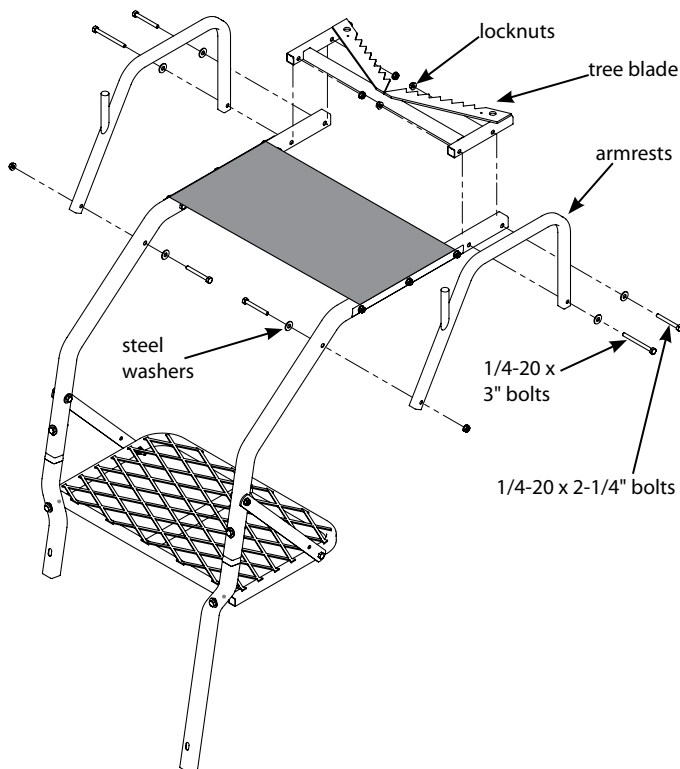
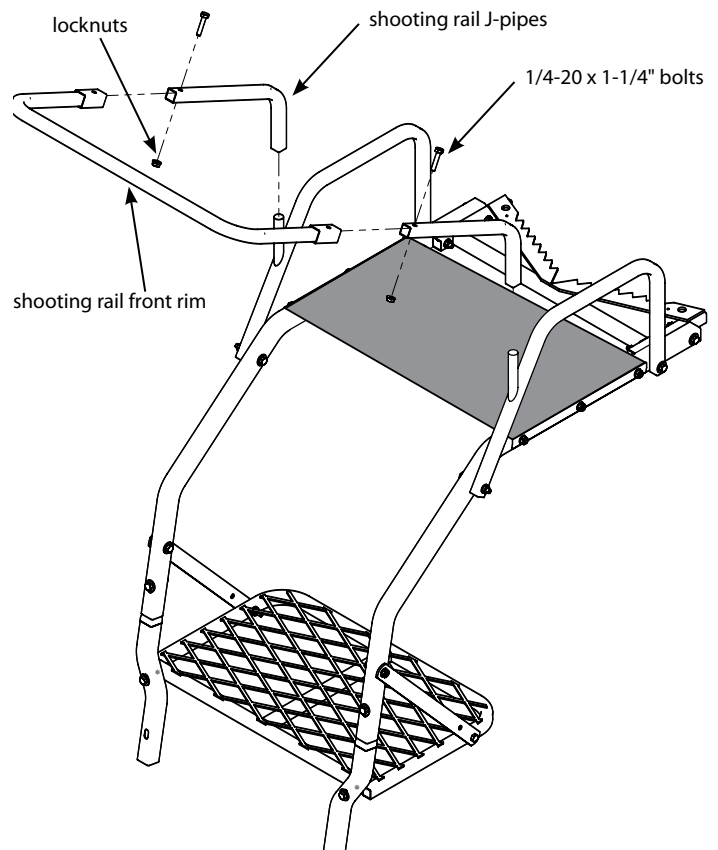

Figure 4
Figure 5
5. Attach the tree blade weldment (SL67) to the rear end of ladder side rails and (2) armrests to the ladder side rails using (4) provided 1/4-20 x 2-1/4" bolts, (2) provided 1/4-20 x 3" bolts, (6) locknuts and (6) steel washers. **SEE FIGURE 4. Tree blade will be a tight fit in order to correctly span the seat properly. You must now tighten all nut and bolt assemblies. Be sure not to over tighten or crush tubing when tightening!**
6. Insert (2) shooting rail J-pipes (410042) into the shooting rail front rim (410041) and secure together using (2) provided 1/4-20 x 1-1/4" bolts and locknuts. **Tighten securely. Be sure not to over tighten or crush tubing when tightening.**
7. a. Attach the removable shooting rail by setting rail down over studs provided on armrests. **SEE FIGURE 5. Lubrication is recommended to prevent binding and noise.**
b. Attach the (2) provided 9" and (1) provided 18" camo foam pads to the armrests and shooting rail by wrapping around tubing and attaching Velcro together.